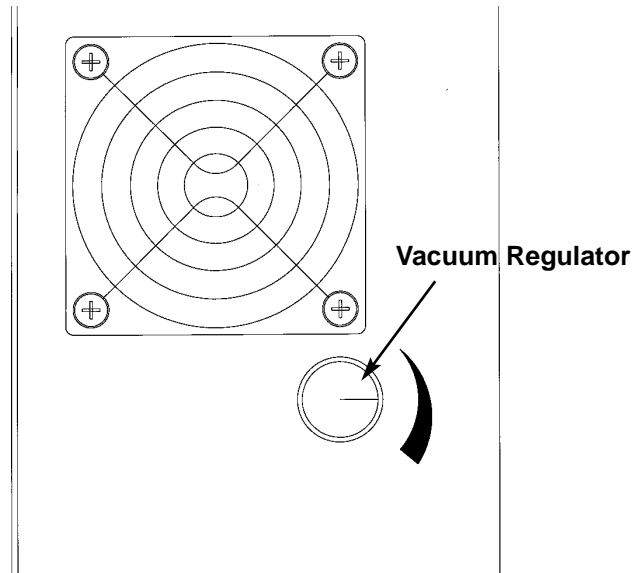

Figure 4.13 TLC-II Driver Vacuum Regulator (lower side of driver)
4.4.10 Adjust the vacuum regulator on the bottom side of the TLC-II, inside the opening in the TLC-II carrying case (**Figure 4.13**). Start with minimum vacuum (fully counterclockwise) and gradually increase until full signals and desired rate are achieved. Do not use more vacuum than necessary to fill the VAD. Maximum vacuum is fully clockwise.